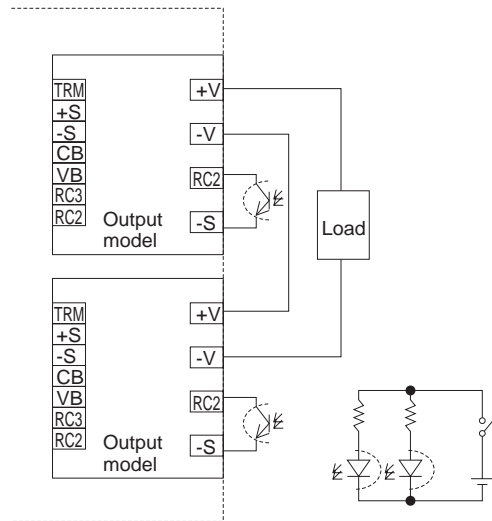

Fig.2.2 Example of remote control circuit in series operation
- ①The output stops when the current is drawn in RC3. The current drawing RC3 is less than 12mA.
- ②Built-in fans do not stop even if the output is turned off with remote ON/OFF circuit.
- ③The IOG signal is output when the output voltage is turned off with remote ON/OFF.
- ④You should be careful of electric potential in series when you wire the remote control circuit,since it is not insulated from the output. Example of a circuit in series is shown in Fig.2.2.